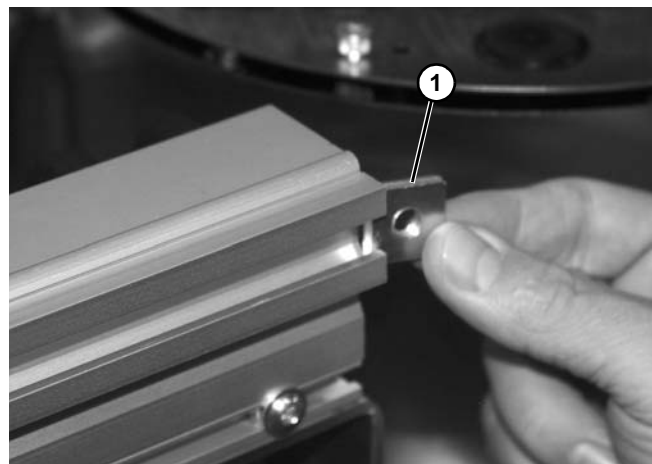

Figure 3
1. Install spring nut (**Figure 3, item 1**) into T-slot.